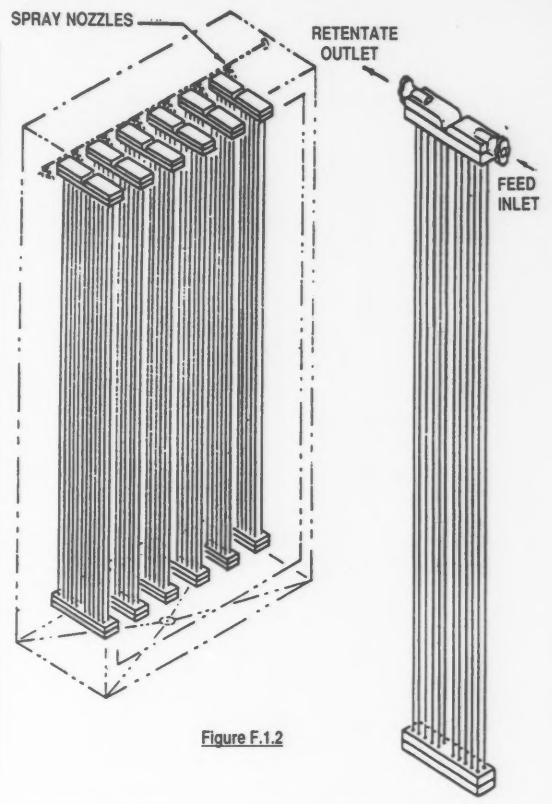

Figure F.1.2
- a. **Exposed Outer Surface** - This design is similar in concept to the one inch tube. There is no closely fitted external shroud. The tubes are glued in stainless steel manifolds in cabinets. A composite material is used for membrane support. See Figure F.1.2.